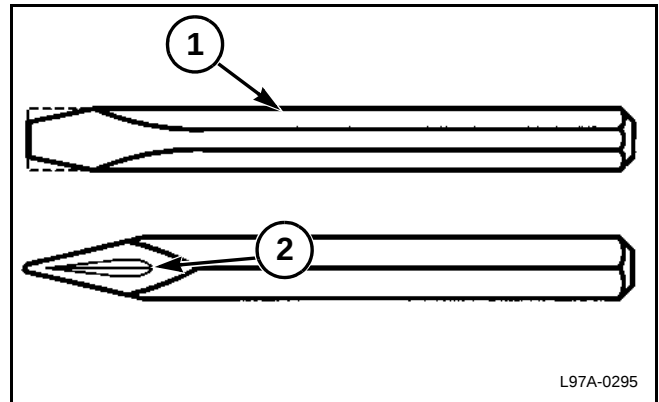

FIG. 35
FIG. 35: Make a special tool to remove gib keys from locations with little access. Use a 25 mm (1 in) wide chisel and grind the width of the chisel to 16 mm (5/8 in) (1). Grind a slot (2) in each side of the head of the chisel. The slot is used to keep the chisel from slipping.